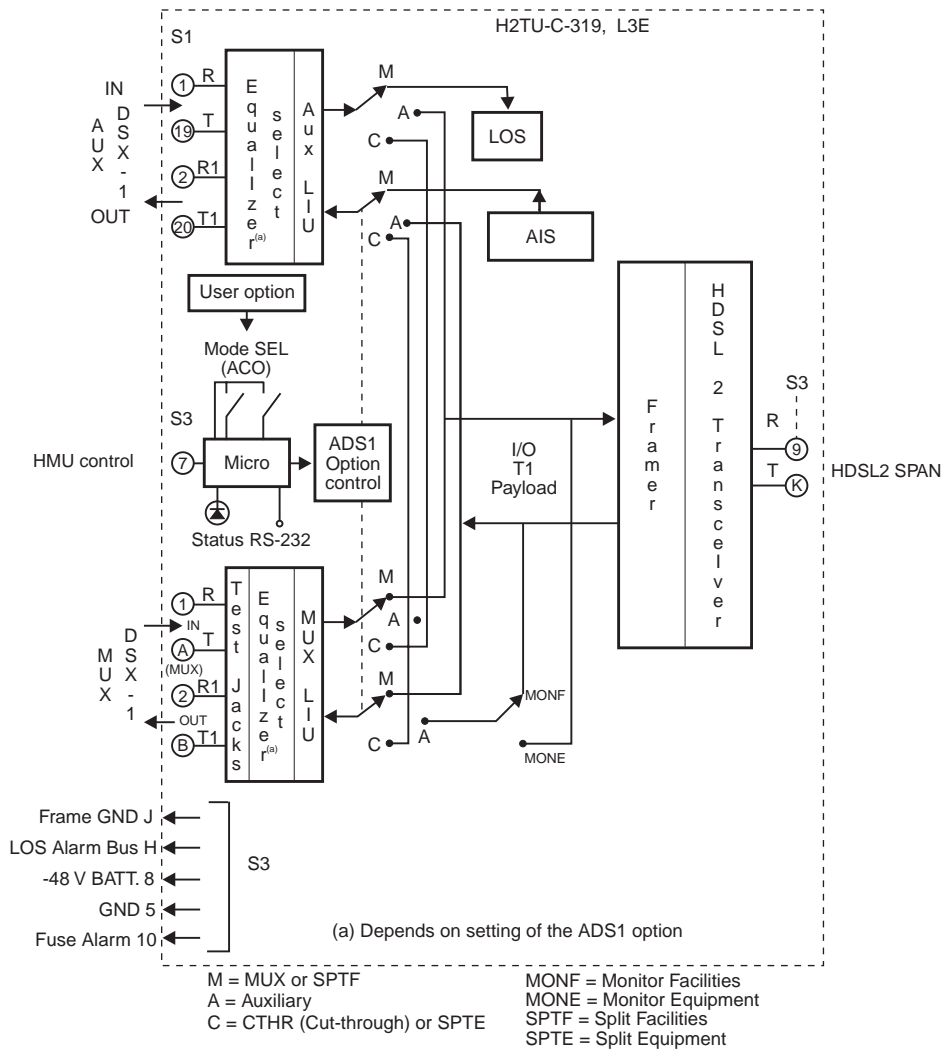

Figure 37. H2TU-C-319 List 3E Block Diagram
Figure 37 shows a block diagram of the H2TU-C. The H2TU-C receives a 1.544 Mbps DSX-1 data stream from the DSX-1 digital cross connect interface. The H2TU-C contains a DS1 frame synchronizer controlled by an 8-bit microprocessor that determines the type of framing on the DS1 stream and synchronizes to it. The H2TU-C recognizes Superframe (SF), including D4, or Extended Superframe (ESF) framing.